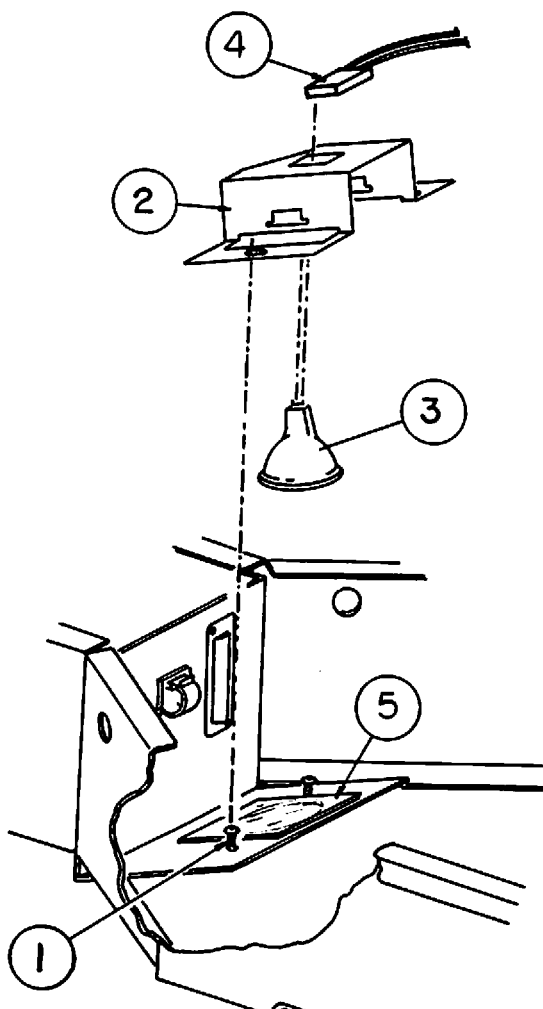

FIGURE 5.5 EXAMINATION LIGHT REMOVAL AND REPLACEMENT
2. REFER TO FIGURE 5.5 and unplug the connector (4) from the lamp (3).
3. REFER TO FIGURE 5.5 and loosen (do not remove) the two screws (1) that secure the lamp mounting bracket (2) to the Warmer Module Subassembly and remove the lamp mounting bracket and lamp. Use care to ensure that the window glass (5) is not dislodged during removal.